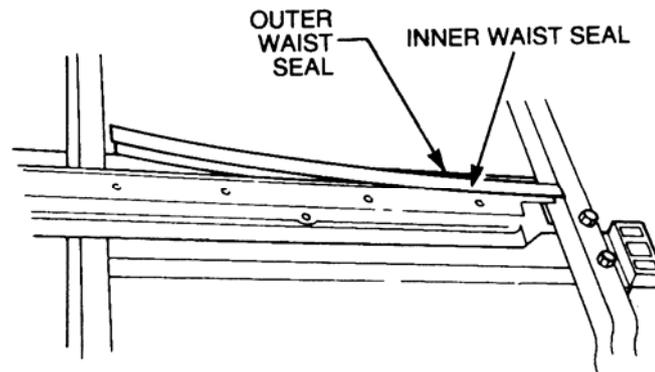

Figure 33 Window Waist Seals Removal
- oo. Remove the inner and outer waist seals from the door flanges (refer Figure 33).
- r.** Install the inner and outer waist rail seals on the door flanges (refer Figure 33).